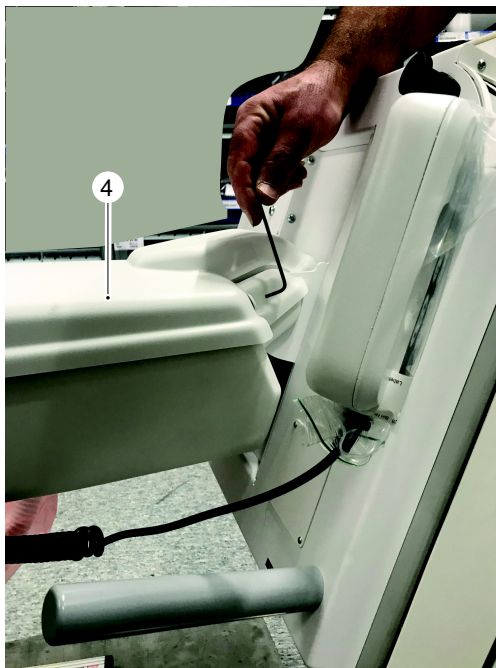

Fig. 6-21 Remove upper housing
3. Tilt the detector holder to appr.  $-20^{\circ}$  as shown in **Fig. 6-21**
4. Loosen the screws and remove the upper plastic housing (4).